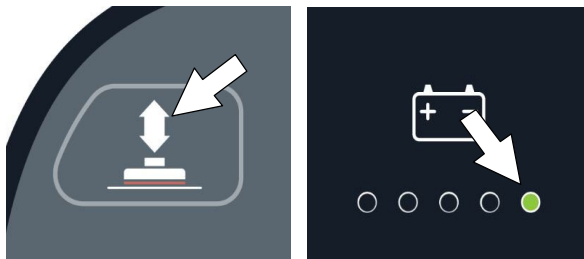

FIG. 151
1. Park the machine on a level surface and turn the key to off (O) position.
2. Press and hold the brush pressure button while turning the key on. Release button when the far right battery discharge indicator LED turns on (Figure 151).